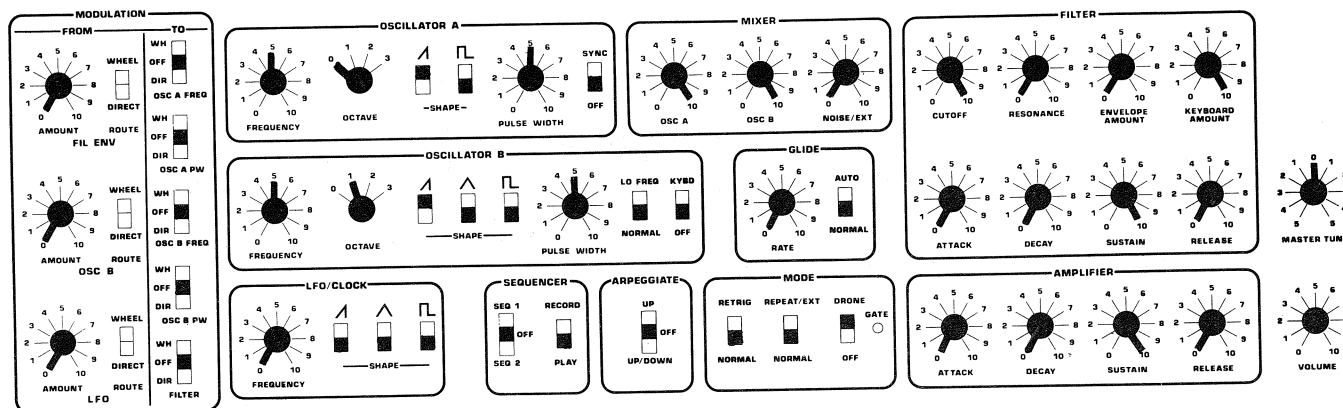

Figure 5-0
1. Patch according to Figure 5-0. For component locations, see Figure 5-1.
5. Hit C3 and adjust OSC A FREQUENCY for zero-beat. If this required increasing OSC B FREQUENCY, turn R128 OSC A SCALE trimmer clockwise (CW) a small amount. If OSC B FREQUENCY needed decreasing, turn OSC B SCALE trimmer counter-clockwise (CCW) a small amount.